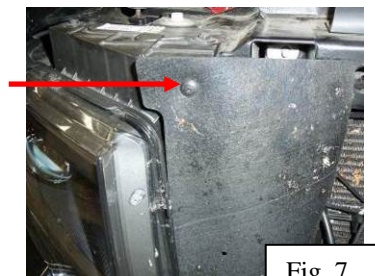

Fig. 7
8. Using a Phillips screwdriver and trim tool remove the plastic clip holding the rubber air deflector on the passenger side of the truck next to the headlight (Fig. 7).